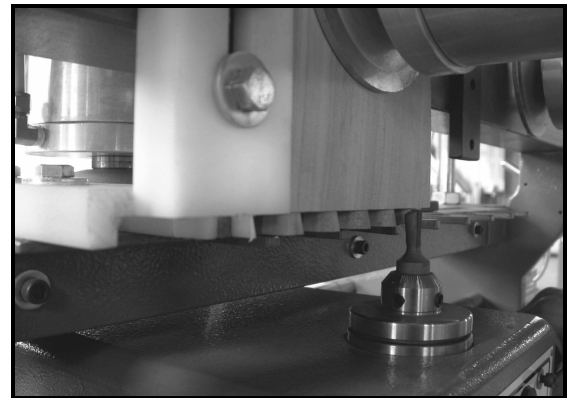

Figure 26
9. Turn on the machine at the switch, and slide the headstock to the left edge of the workpiece. Move the cutter in sequence, left to right, allowing the tracer pin to move in and out of the template slots. See Figure 26. You can watch the progress of the cutter through the window of the dust hood.